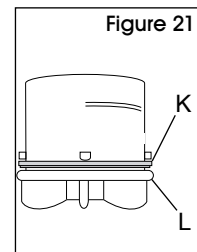

Figure 21
4. If rubber ring (K) on cap has displaced, replace it with uneven side against cap ledge (L) as shown. (See Figure 21)